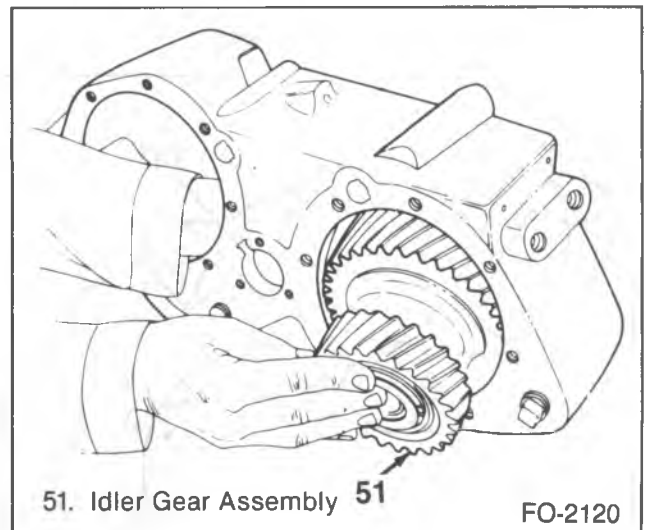

Figure 11—Installing the Idler Gear Assembly
3. Idler gear assembly with Tool-A into the case. Go through the front output bore, large end first (figure 11).
4. Idler shaft (54) from the large bore side.